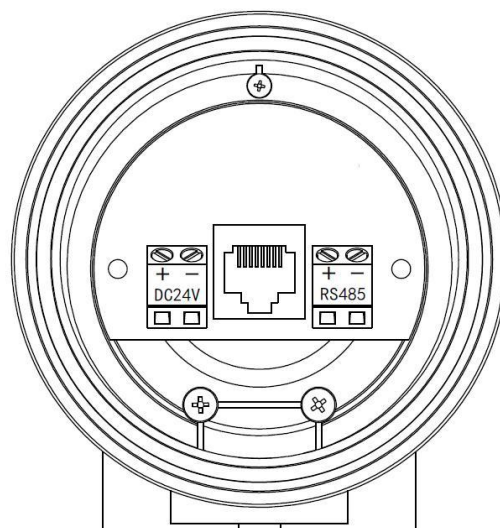

Figure 2 Schematic Diagram of Radar Terminal Blocks
- The terminal block is shown in Figure 2.